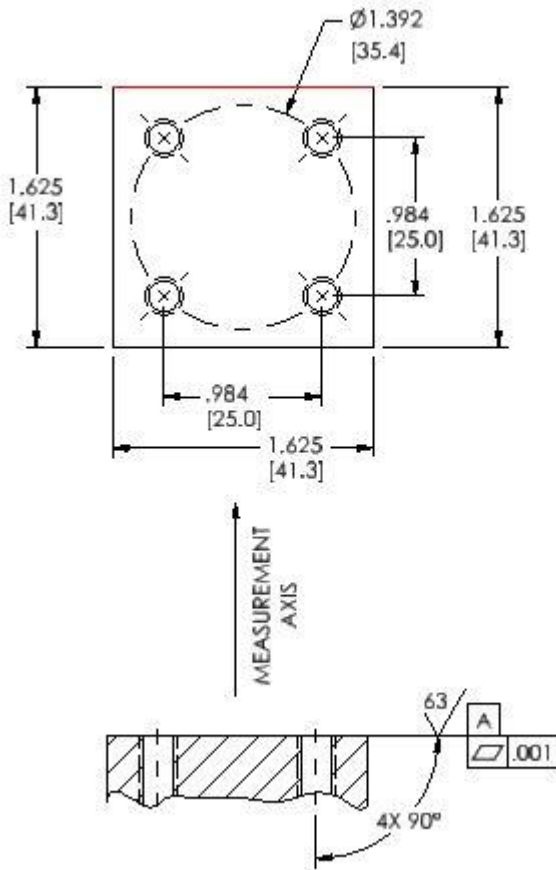

Figure 2. Mounting Surface Preparation
Step 2: Prepare a smooth, flat mounting surface on the machine casing. Then drill and tap a mounting hole in the center or on the corresponding bolt circle of the sensor—as shown in Figure 2 and in accordance with the **Installation Drawing** for the specific sensor that is being mounted.